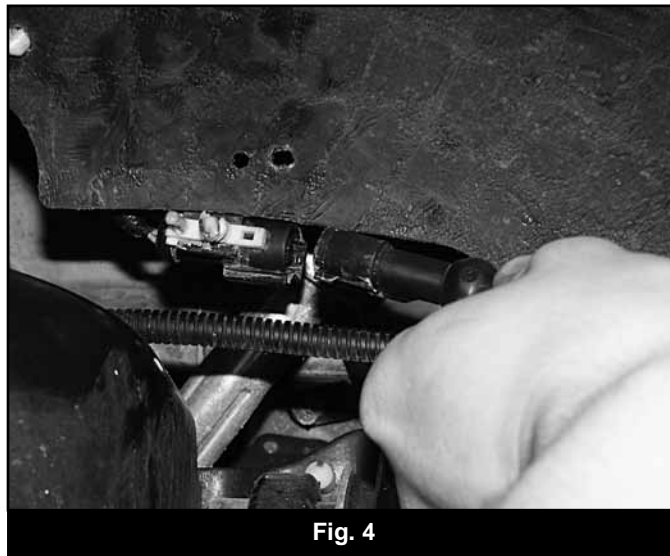

Fig. 4
9. Disconnect the ABS line from the inner fender and disconnect ABS wire connector (Fig 4).